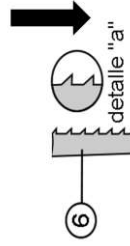
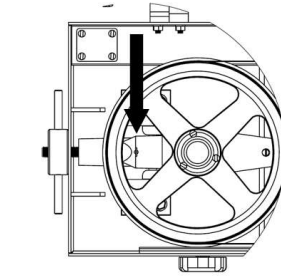
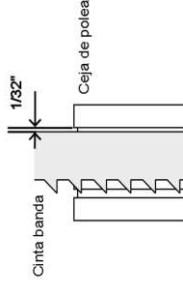

FIG. 1
FIG. 2
FIG. 3
- 2.- Installing the saw blade (5).
- a) Be sure of the direction of the cut (**teeth must face down, see detail "a" on fig 1**).
- b) Put the blade (5) on the wheels (2 & 19), into the guides (13 & 14) and into the scrapers (17).
- c) Turn the tension handle (15) clock wise until the red spot (1) is in the center of the hole (fig 2), of the tension gauge housing (23).
- d) Turn the upper wheel (2) counter clock wise 2 or 3 revolutions by hand, **very slowly and with caution** to be sure everything is ok.
- e) Be sure the blade is correctly aligned (must have a separation of 1/32" against the pulley's edge) **fig 3**
- 3.- Be sure that the pulleys (2 & 25) and blade (6) run free of objects.